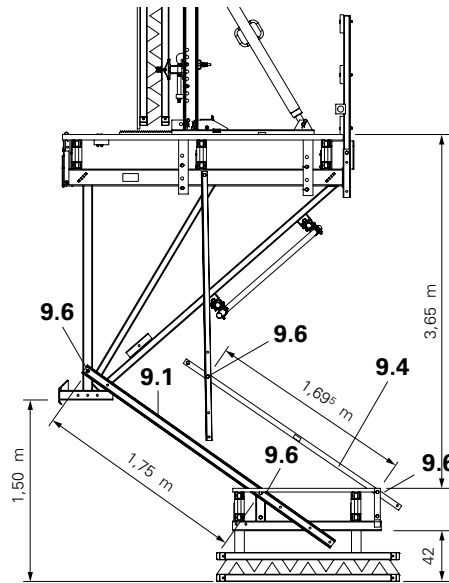

Fig. B1.28.1
4. Bolt Platform Post 225 (9.1) to Post Extension 180 (9.2) and fix at an angle with bolt (9.6) to the bracket and finishing platform. (Fig. B1.26) Depending on the concreting height, use top or bottom hole, see Fig B1.28.1 – B1.28.4.
5. Fix the Guardrail Post 190 (9.4) or Guardrail Post 370 (9.5) to Guardrail Post 200 (9.3) at an angle using bolt (9.6). Depending on the concreting height, use top or bottom hole, see Fig. B1.28.1 – B1.28.4. Mount wind bracing (6.3/7.3).
Working platform – finishing platform spacing: 3.65 m. Required free space:  $\geq 42$  cm. Mark out Platform Post CB 225 (9.1) and Guardrail Post CB 190 (9.4). (Fig. B1.28.1)